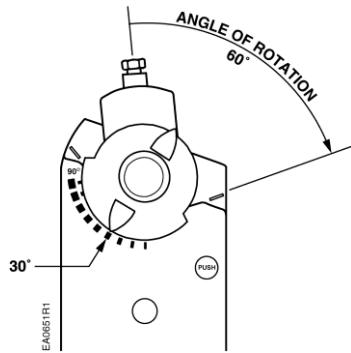

Figure 15.
5. Remove the shaft adapter and insert it with the position indicator pointing to mark on the scale calculated in the previous step. Figure 15.